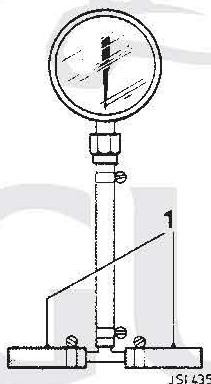

FIG 1
1. Remove the two short hoses (1 Fig. 1) from the existing gauge.